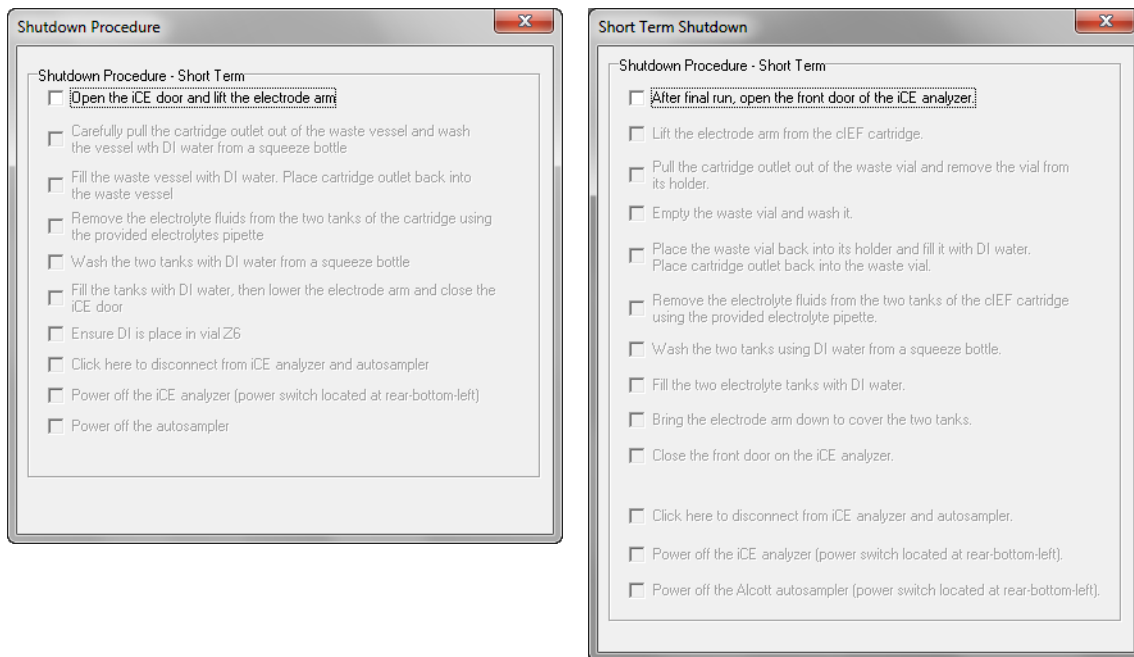

Figure 10-5: Short term shutdown protocol in iCE CFR Software for PrinCE Next (left) and Alcott 720NV (right).
1. In iCE CFR Software, select **Operate** from the main menu, then click **Shutdown** and **Less than 7 days**. The short term protocol checklist will display (Figure 10-5):